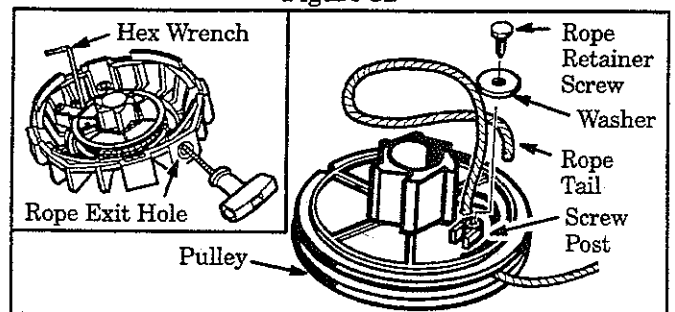

Figure 33
8. Remove rope retainer screw from pulley. Then, remove any remaining rope. Figure 33 .
11. Insert the small hex wrench into the hole formed by the notches to hold the pulley in position. Figure 33 (inset).
17. Wrap the rope counterclockwise around the pulley ratchet and tuck loose end under the rope at the pulley hole. Figure 33 . Leave a 1 inch tail laying between the retainer rib and the retainer screw/post. Figure 33 .